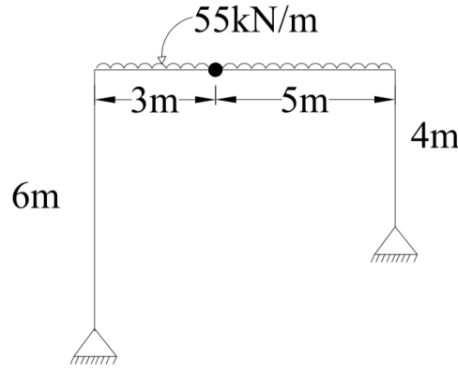

Fig.3
- (b) Analyze the following portal frame as shown in Fig.3 and draw the bending moment diagram of the frame.